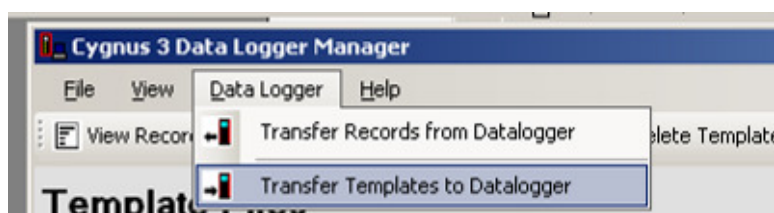

Fig. 11.9. Data Logger Menu Options.
2. Click on **Data Logger** in the menu bar (fig. 11.9)